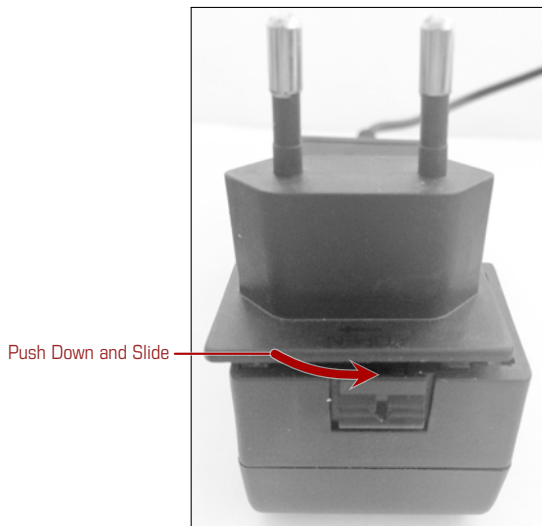

Figure 133: Mounting an adaptor to the wall power supply
2. Insert the desired adaptor into the socket and move it until it snaps into place (Fig. 133, p. 125).